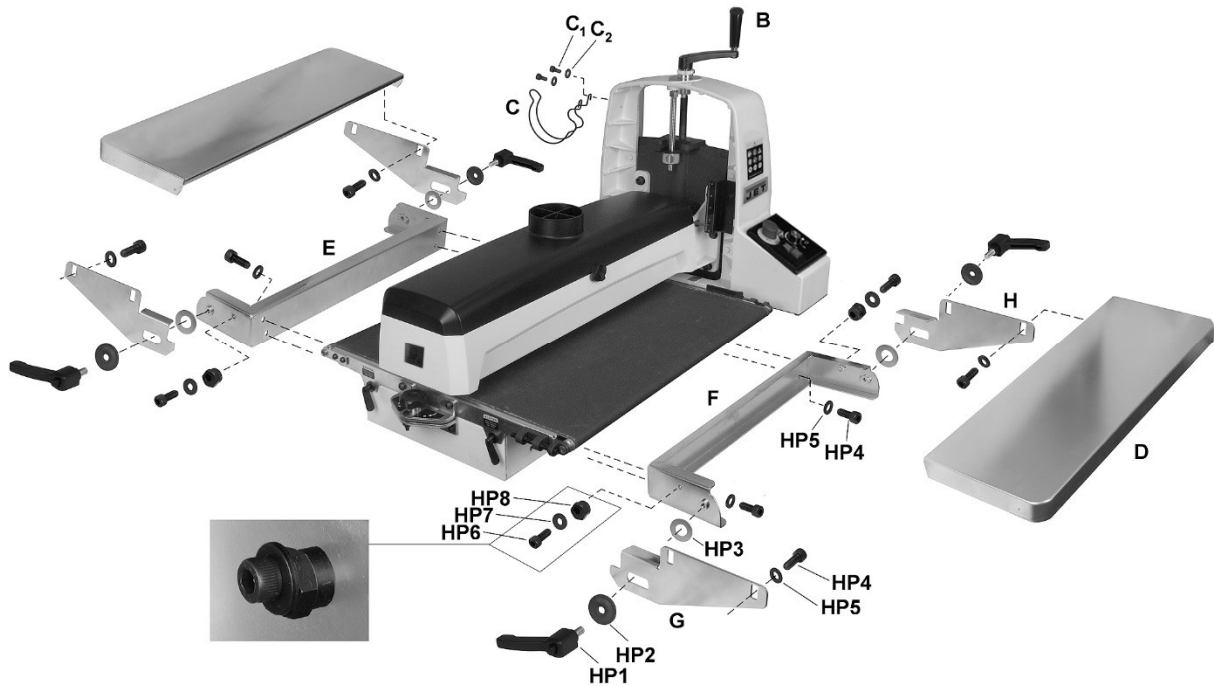

Figure 6-3: Assembly of Sander and OPTIONAL Infeed/Outfeed Tables
1. Install height adjustment handle (B, Fig 6-3) onto spindle and tighten set screw.
2. Install hose hanger (C) with screws and washers (C1/C2).
1. Install infeed and outfeed brackets (F, E, Figure 6-3) to the threaded holes in sander base with socket head screws and flat washers (HP4/5). Make sure left and right brackets are oriented as shown. The brackets should be flush against the base. NOTE: Long brackets mount to front (infeed); short brackets to rear (outfeed).